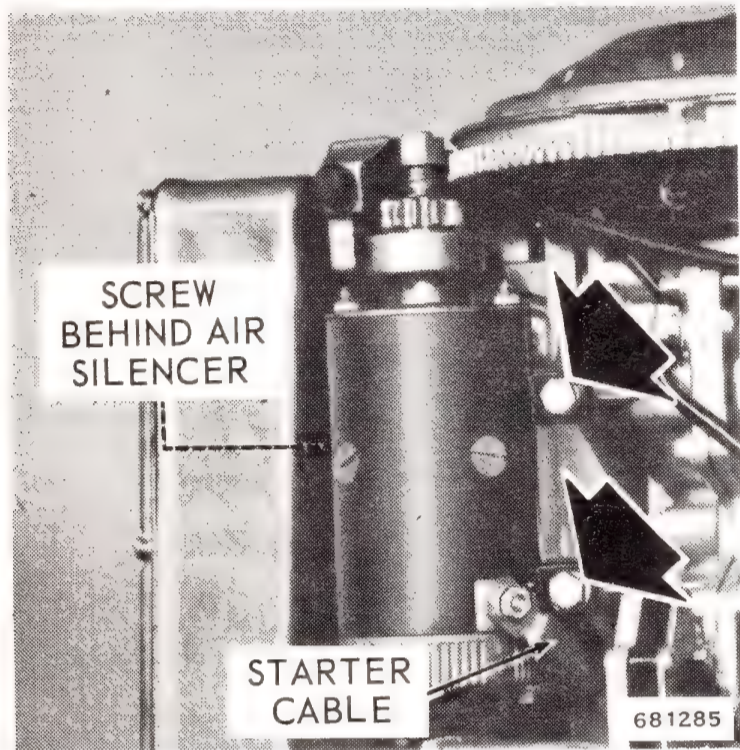

Figure 7-6. Location of Starter Screws
- c. Remove three starter mounting screws. See Figure 7-6.